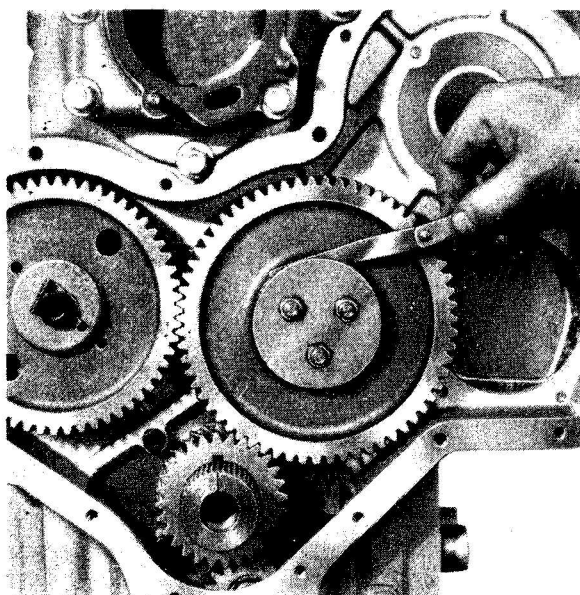

Fig. 6
5. Refit the idler gear retaining plate and secure with the three setscrews tightened to a torque of 41 Nm (30 lbf ft). Check idler gear end float (Fig. 6).